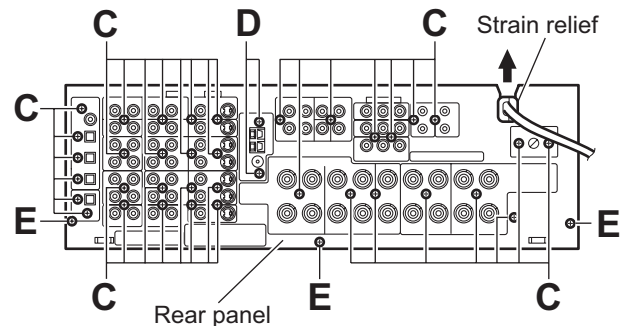

Fig.2
3.2 Removing the rear panel (See Fig.2)